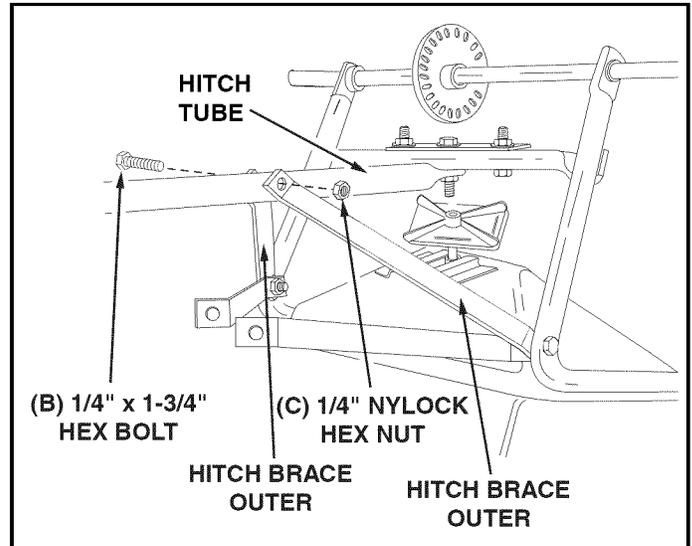

FIGURE 2
STEP 2: (SEE FIGURE 2)
- Assemble the two **OUTER** hitch braces to the hitch tube using a 1/4" x 1-3/4" (B) hex bolt and a 1/4" nylock hex nut (C). **DO NOT TIGHTEN YET.** Do not assemble the inner hitch braces at this time.